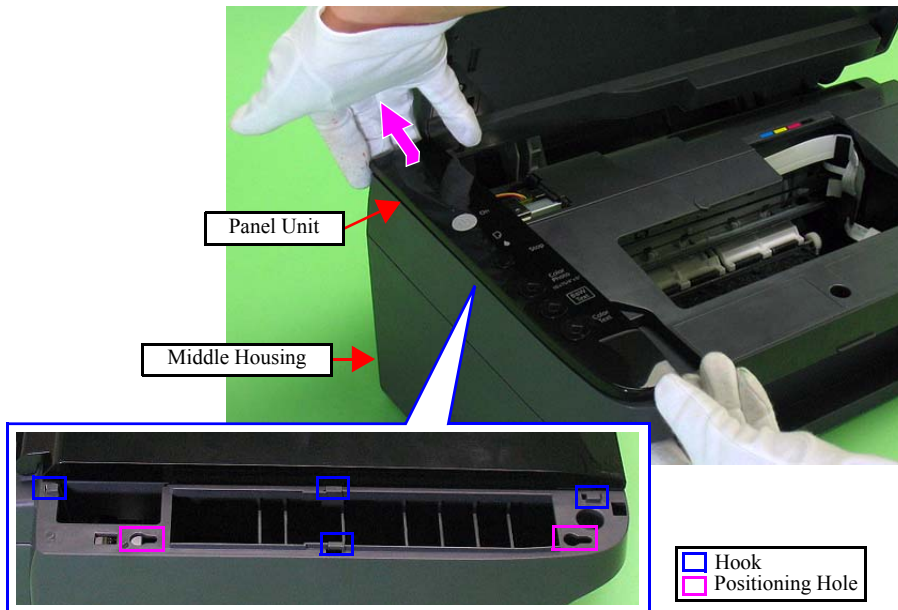
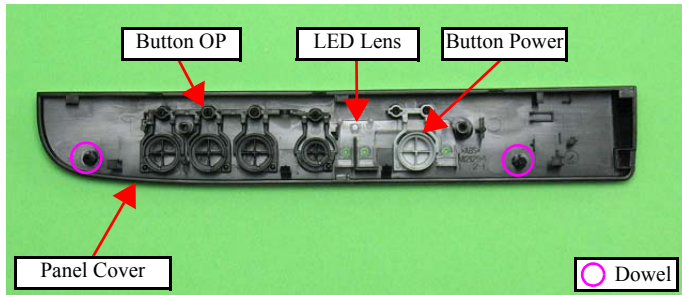

Figure 4-16. Removing the Panel Unit (1)
Figure 4-19. Removing the Buttons
- When installing the Panel Unit, align the positioning holes of the Middle Housing with the dowels of the Panel Cover, then secure them with four hooks. (See Fig.4-16, Fig.4-19.)